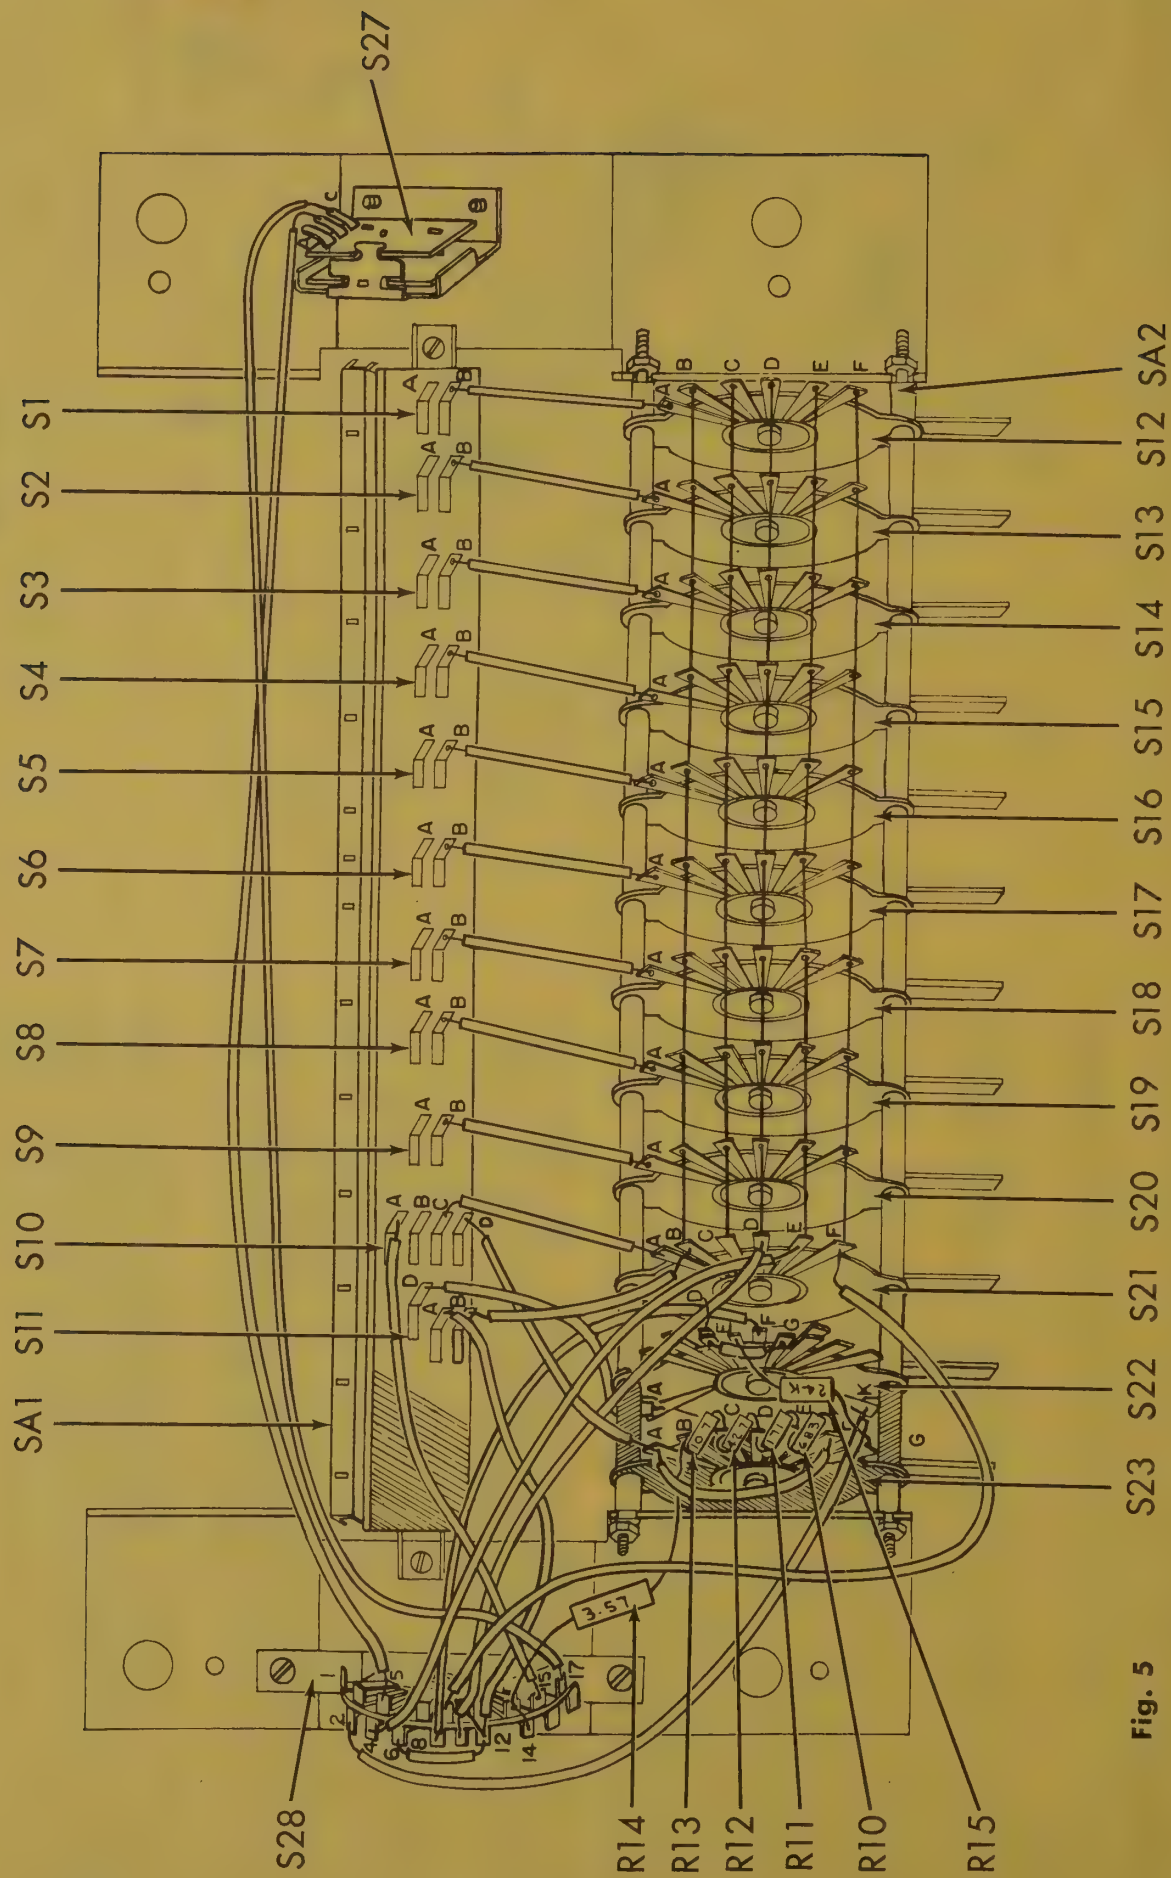

Fig. 5
- (✓) 1. Fig. 5. Connect short lengths of bare wire, covered with spaghetti, between each of the following pairs of points (solder both ends):
- (✓) 2. Fig. 5. Run one end of an 8" length of bare wire thru S12-B. Continue running it thru S13-B, S14-B, etc., finally connecting it to S21-B. Do not solder yet.
- (✓) 3. Fig. 5. Repeat the above for S12-C thru S21-C.
- (✓) 4. Fig. 5. Repeat the above for S12-D thru S21-D.
- (✓) 5. Fig. 5. Repeat the above for S12-E thru S21-E.
- (✓) 6. Fig. 5. Repeat the above for S12-F thru S21-F.
- (✓) 7. Fig. 5. Connect one end of a 3" red lead to S22-A (S). Connect the other end to the dummy lug, S11-D (C).
- (✓) 8. Fig. 5. Connect a short length of bare wire, covered with spaghetti, from S22-D (C) to S22-G (S).
- (✓) 9. Fig. 5. Connect a short length of bare wire, covered with spaghetti, from S21-B (S) to S11-B (S).
- (✓) 10. Fig. 5. Connect one end of a 3" blue lead from S10-D (S) to S23-A (C).
- (✓) 11. Fig. 5. Connect one end of a short bare lead, covered with spaghetti, from S23-A (C) to S23-F (C).
- (✓) 12. Fig. 5. Connect the 24K 1W resistor, R15, from S22-E (C) to S23-G (S).
- (✓) 13. Fig. 5. Connect the 683 ohm resistor, R10, from S23-E (S) to S23-E (C).
- (✓) 14. Fig. 5. Connect the 171 ohm resistor, R11, from S23-E (S) to S23-D (C).
- (✓) 15. Fig. 5. Connect the 42.7 ohm resistor, R12, from S23-D (S) to S23-C (C).
- (✓) 16. Fig. 5. Connect the 10.7 ohm resistor, R13, from S23-C (S) to S23-B (C).
- (✓) 17. Fig. 5. Connect one end of the 3.57 ohm resistor, R14, to S23-B (S). Pass the other end thru S28-13 and connect to S28-14. Solder both points.
- (✓) 18. Fig. 5. Connect a 5" violet lead from S10-A (S) to S28-15 (S).
- (✓) 19. Fig. 5. Connect a 6" white lead from S21-F (S) to S28-9 (S).
- (✓) 20. Fig. 5. Connect a 7" brown lead from S21-E (S) to S28-4 (S).
- (✓) 21. Fig. 5. Connect a 6" yellow lead from S21-D (S) to S28-10 (S).
- (✓) 22. Fig. 5. Connect a 4" black lead from S11-A (S) to S28-11 (S) and 12 (C).
- (✓) 23. Fig. 5. Connect a short length of bare wire covered with spaghetti from S28-6 (S) to S28-12 (S).
- (✓) 24. Fig. 5. Connect a 6" orange lead from S22-F (S) to S28-8 (S).
- (✓) 25. Fig. 5. Connect a 8" red lead from S22-K (S) to S28-2 (S).
- (✓) 26. Fig. 5. Connect a 15" grey lead from S28-17 (S) to S27-C (S).
- (✓) 27. Fig. 5. Connect a 14" blue lead from S28-5 (S) to S27-B (S).